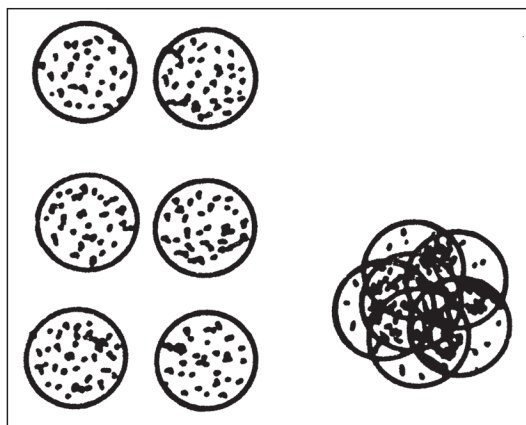

Figure 2: Total loads are the same in both halves, but unit loads are greater on the right side.
2) *Unit Force:* This is the force per unit area, such as pounds per square inch. This specification is most significant in dealing with biomechanical forces (Figure 2).